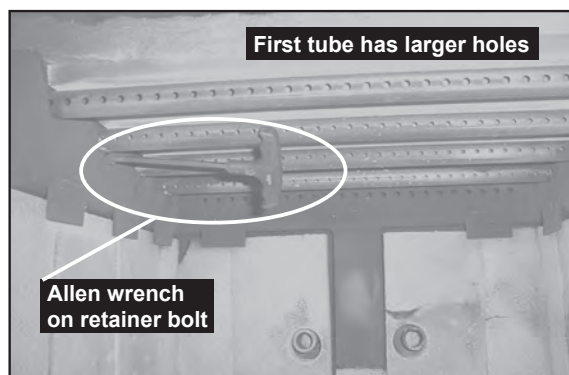

FIGURE 25B - Allen wrench on retainer bolt.
2. With a 3/16" allen wrench, remove the 2 front secondary combustion tube retainer bolts on the secondary air channel under the end of the front tubes. **See Figure 25B.** NOTE: Soak the bolts with penetrating oil for at least 15 minutes before trying to remove them.